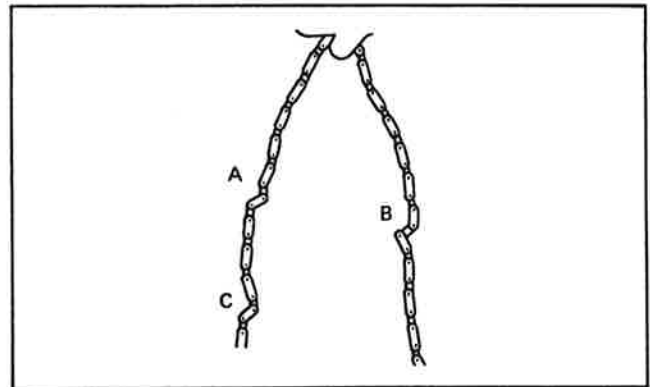

Fig. 5-5-6
2. Check the chain for stiffness. Hold as illustrated. If stiff, soak in solvent solution, clean with wire brush, dry with high pressure air. Oil chain thoroughly and attempt to work out kinks. If still stiff replace. (Fig. 5-5-6)